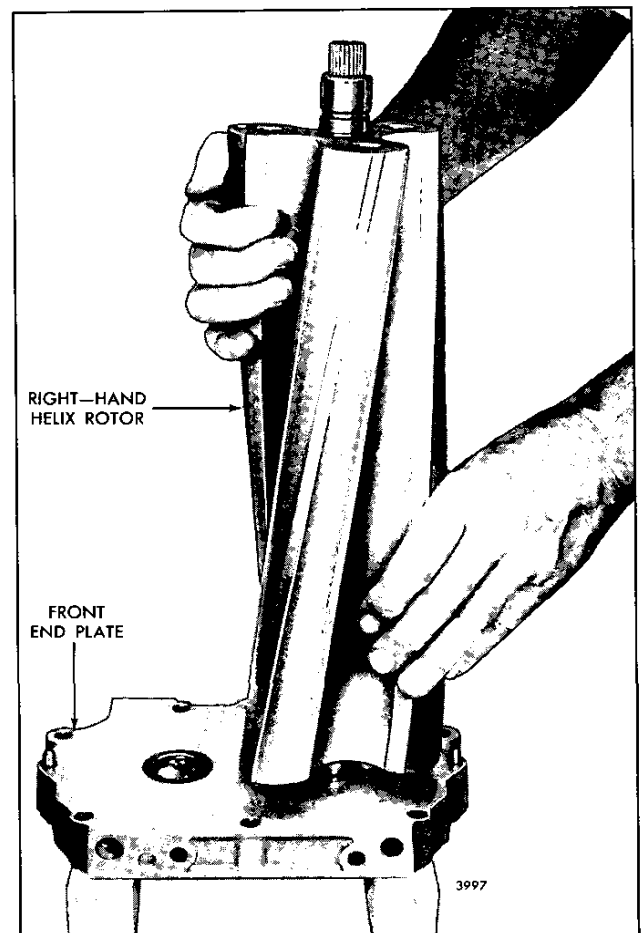
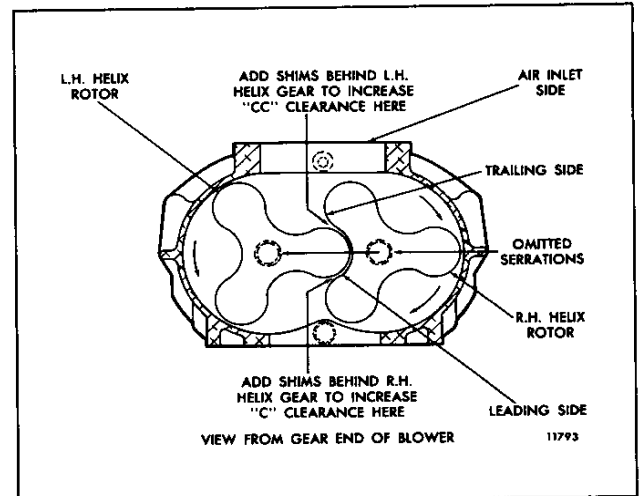

Fig. 14 - Installing Blower Rotor in Front End Plate
Fig. 20 – Diagram Showing Proper Location of Shims for Correct Rotor Lobe Clearances
The rotors must be assembled in the blower housing with the omitted serrations in the rotor shafts aligned as shown in Fig. 20.
shown in Fig. 20. Then start the end of the shaft straight into the oil seal in the right-hand shaft opening in the end plate as shown in Fig. 14 and lower it until the lobes of the rotor contact the end plate.
- b. Rotate the rotors to bring the omitted serrations on the shafts in alignment and facing to the right (Fig. 20).
6. After determining the amount one rotor must be revolved to obtain the proper clearance, add shims back of the proper gear as shown in Fig. 20 to produce the desired result. When more or less shims are